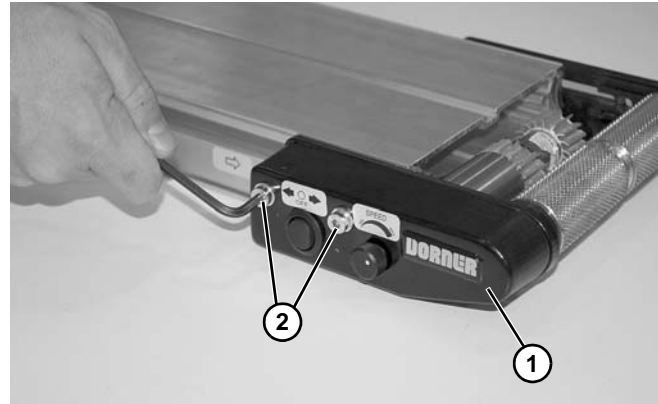

Figure 83
2. Remove drive side cover (**Figure 83, item 1**) by removing two iDrive cover screws (**Figure 83, item 2**).